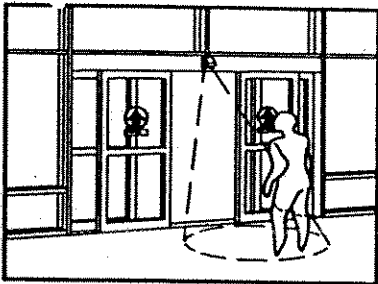

Figure 1
1. Check electronic sensor by walking towards door opening at a moderate speed. Door should start opening when you are about five feet from the door, should slide open smoothly, and stop without impact. Repeat on other side of opening. Move slowly through the door (6 in. per second). The door should remain open. (See Figure 1)